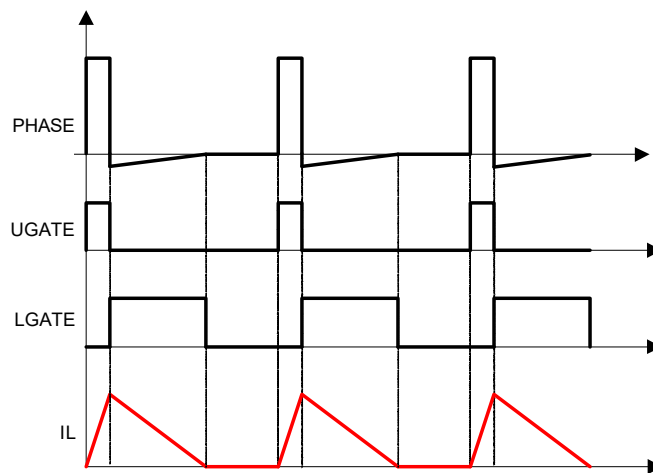

Figure 45. Diode Emulation
The R3 modulator can operate in Diode Emulation (DE) mode to increase light-load efficiency. In DE mode, the low-side MOSFET conducts when the current is flowing from source-to-drain and does not allow reverse current, which emulates a diode. As shown in Figure 45, when LGATE is on, the low-side MOSFET carries current and creates negative voltage on the phase node due to the voltage drop across the ON-resistance. The IC monitors the current by monitoring the phase node voltage. It turns off LGATE when the phase node voltage reaches zero to prevent the inductor current from reversing the direction and creating unnecessary power loss.
If the load current is light enough, as Figure 45 shows, the inductor current reaches and stays at zero before the next phase node pulse, and the regulator is in Discontinuous Conduction Mode (DCM). If the load current is heavy enough, the inductor current never reaches 0A, and the regulator is in Continuous Conduction Mode (CCM) although the controller is in DE mode.